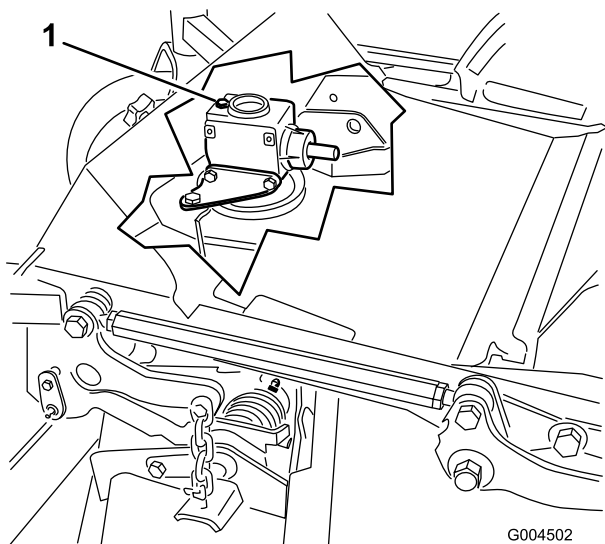

Figure 63
- Remove the dipstick/fill plug from the top of the gear box (Figure 63) and make sure that the lubricant is between the marks on the dipstick.
- Remove the dipstick/fill plug from the top of the gear box (Figure 63).